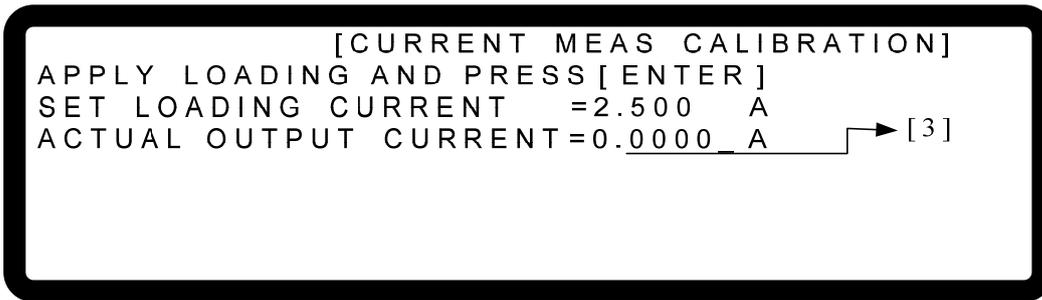

Figure 3-100
10. For high current range calibration, press “” to perform 2.5A calibration. The cursor will stop at position [3] as Figure 3-100 shows for setting the loading current of Electronic LOAD to 2.500A. Enter the current read by Current Shunt (DVM) to position [3] and press “” to confirm and wait for it to end.